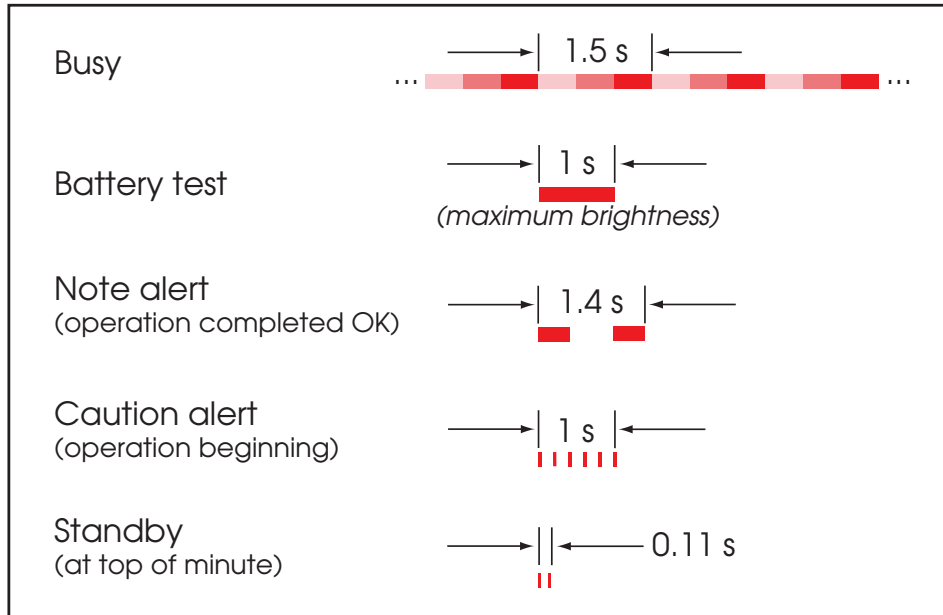

Figure 1. Normal red (Alert) LED behavior.
4. Ensure that the Acousonde boots up properly by watching the behavior of its red Alert LED (Figure 1), which should begin its flash sequences about 30 s after power is applied. When startup is complete, at least two USB volumes should be mounted for access on your personal computer. One of these volumes holds the log file and all auxiliary data. The remaining volume or volumes hold only acoustic data. *Note: Some PCs do not always see all volumes. On Apple computers, this can be solved simply by starting and then quitting the Apple "Disk Utility" application (found in the "Utilities" subfolder under "Applications"), or by disconnecting and reconnecting the Acousonde. No workaround for this problem has been found yet for Windows computers, other than to use a different computer.*
4. If the Acousonde filesystems mounted on your personal computer appear to contain files, erase them using the **Erase** softkey on the **Acousonde** application’s **STORAGE** page. This will send an erase command via infrared to the Acousonde. Again, for the infrared command to be received, the optical path between the Palm and Acousonde infrared ports must be clear. Erasure may take several minutes to complete, during which time the Acousonde will signal busy by cycling the brightness of its red Alert LED (see Figure 1).
6. Ensure that the Acousonde boots up properly by watching the behavior of its red Alert LED (Figure 1), which should begin its flash sequences about 30 s after power is applied.
9. Once you are satisfied with the sampling parameters, use the **Execute** softkey to tell the Acousonde to begin sampling. The red Alert LED will flash a “Caution Alert” (Figure 1) to indicate that the Acousonde received and is acting on the **Execute** command. Sampling will start approximately 15 seconds after the Caution Alert is displayed.